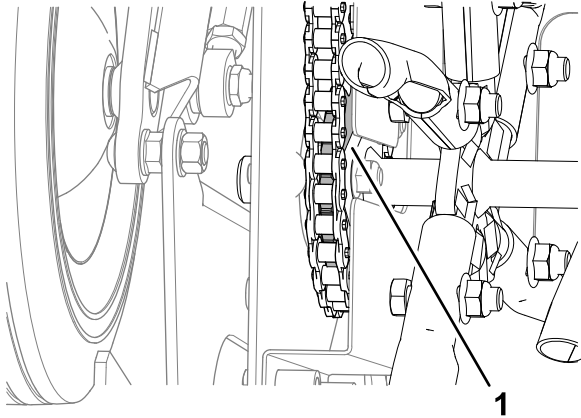

**Figure 64**
1. Assemble the belt over the transaxle pulley (Figure 64).